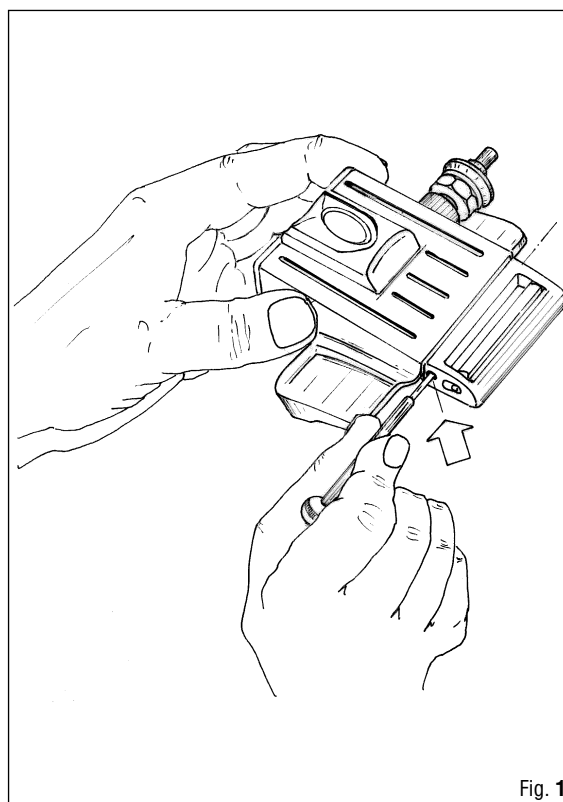

Fig. 1
1. Pull the tank retaining band (35) completely out of the buckle (31).
2. Remove the traction tank pad (96) and the lock buckle (or triglide) (111) from the tank retaining band (35).
**NOTE** MARES RECOMMENDS DISASSEMBLING THE TANK RETAINING BAND (35) FROM THE SHELL (32) ONLY IN CASE OF NEED.
**NOTE** BEFORE PROCEEDING WITH THE OPERATION DESCRIBED IN STEP - 4 - CHECK THAT THE HOLE IN BUCKLE (31) WHICH ACCOMMODATES THE STAINLESS STEEL ROD (33) IS COMPLETELY CLEAR OF THE SHELL (32) SEE FIG. 1).
4. Use a metal pointed tool (or special tool B-22, with max diameter 2 mm) to disassemble the stainless steel rod (33), releasing the buckle (34) (SEE Fig. 1).
MARES RECOMMENDS TAKING GREAT CARE TO AVOID DEFORMING AND/OR DAMAGING THE STAINLESS STEEL ROD. (See Fig. 1).